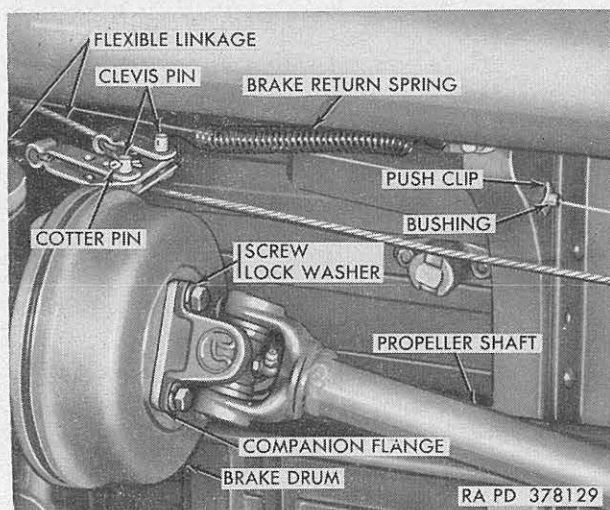
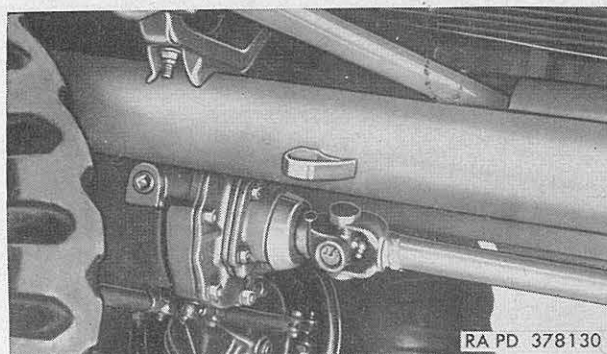

Figure 58. Front end of propeller shaft, and brake.
Figure 59. Rear end of propeller shaft.
(fig. 58) and lockwashers securing front end of propeller shaft to brakedrum and front companion flange. Move front end of shaft to clear brakedrum and pull rear end of propeller shaft (fig. 59) off shaft of drive pinion in transmission.
*b. Installation.* Push rear end of propeller shaft onto splined end of shaft of drive pinion in transmission (fig. 59). Check to see that holes in front companion flange are alined with tapped holes in brakedrum. Position flange on front end of propeller shaft (fig. 58) against front com-
- (1) Position vehicle upside down and support on suitable blocking.
- (2) Remove five hex nuts, lockwashers and plain washers securing each wheel to wheel hub, and remove wheels.
- (3) Remove four hex-head screws (fig. 58) and lockwashers securing front end of propeller shaft to brakedrum, and swing to one side out of way.
- (5) Unhook brake return spring (fig. 58) from clevis pin in brake lever and bracket on left tube, and remove clevis pin securing handbrake flexible linkage to brake lever. Remove cotter pin and clevis pin connecting footbrake rear flexible linkage to brake lever.
- (2) Position clevis on end of footbrake rear flexible linkage (fig. 58) on lower hole in brake lever and install  $\frac{5}{16}$  x  $2\frac{7}{32}$  clevis pin and  $\frac{3}{32}$  x  $1\frac{1}{2}$  cotter pin. Position clevis on end of handbrake flexible linkage on upper hole in brake lever and install  $\frac{5}{16}$  x  $2\frac{7}{32}$  clevis pin. Hook brake return spring into hole in clevis pin and hole in bracket on left frame tube.
- (3) Install No. 8 woodruff key in keyway
- (4) Position front end of propeller shaft (fig. 58) against front companion flange in brakedrum, turn drum to aline holes in drum, flange and propeller shaft and install four  $\frac{5}{16}$ -24NF x 1 hex-head screws.
- (5) Position two wheels on wheel hubs and